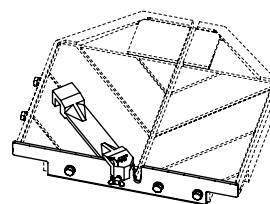

figure 7
2. Set the rip guide onto the ruler guide, such that the top edge of the rip guide is aligned with the diagonal groove to the left of the vertical channel in the cutting table. Tighten threaded knob once in place. *(see figure 7)*